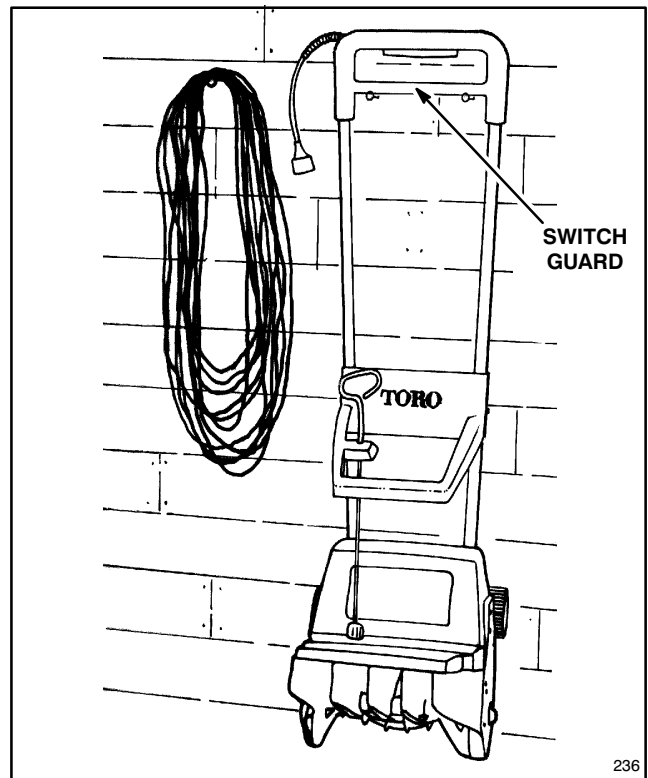

Figure 7
8. Remove the key and disconnect the extension cord when through using the snowthrower. Keep key in a memorable place so it will not be misplaced. Set the vanes in a vertical position and hang snowthrower up by switch guard for convenient storage and to prevent switch damage (Fig. 7). Hang the extension cord with the snowthrower so it will not be misplaced or possibly damaged (Fig. 7).